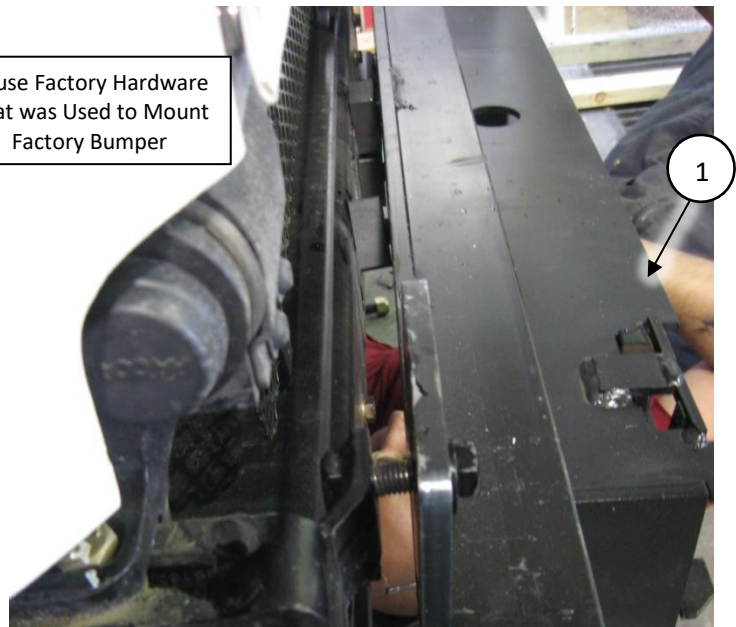

Figure 6 – HERD Bracket Installation (6 bolt mounting pattern)
4. **For 6-bolt mounting pattern truck:** Install Herd steel bracket (Item 1) to truck using OEM hardware retained from step 1. Do not tighten at this point of installation, as shown in Figure 6.